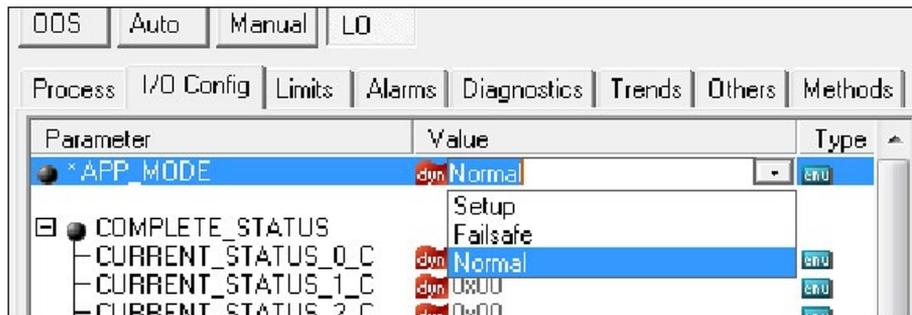

Figure 110 - Select Normal Mode
5. From the drop-down menu select **Normal** (Figure 110).